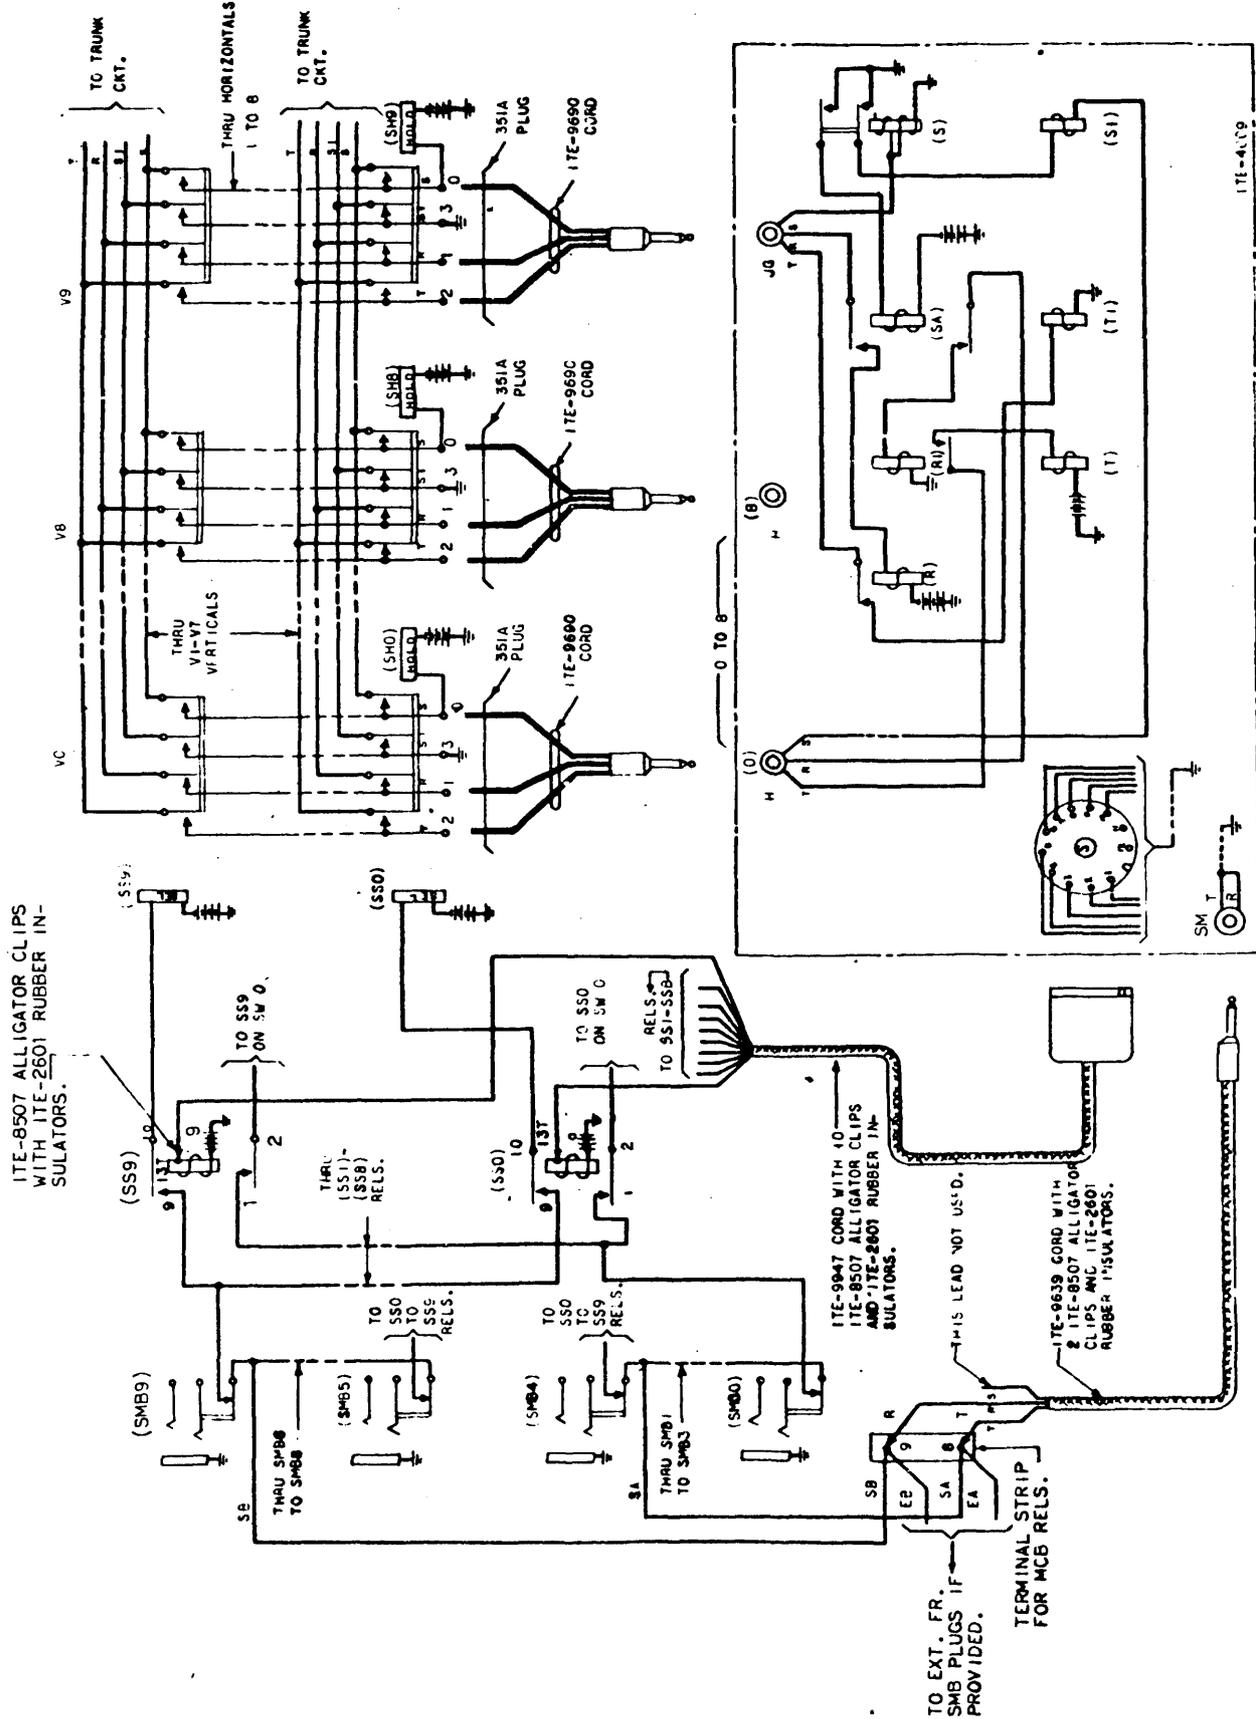

FIG. 5 SETUP FOR CROSSPOINT TEST OFFICE LINK SECONDARY SWITCHES T. R. & S. LEADS ONLY
11.11 Setup for Test (See Figure 5)
- 11.211 When the crosspoint test of the S, R and T leads is completed on a half switch change the test setup of Paragraph 11.11 and Figure 5 to conform to Figure 6 by making the following changes.